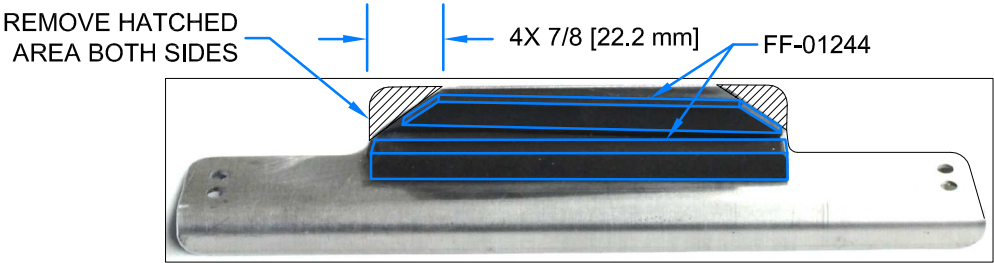

FIGURE 2: F-01201S-1 (ES PC680)
Step 2: (ES PC680 only) Fabricate two FF-01244 Battery Retainer Cushions by cutting 4.5 in. [114.3 mm] lengths of VA-204 SEAL STRIP. Trim the F-01201S-1 and install the two FF-01244 per the callouts in Figure 2. Scuff and clean the aluminum surface for better seal adhesion.